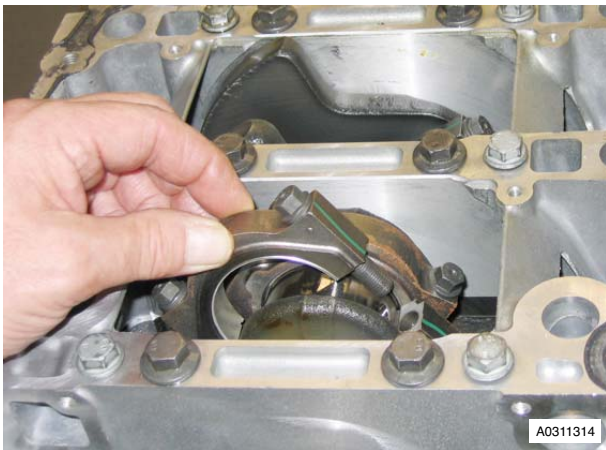

Figure 13
28. Remove bolts (x2) securing bearing cap to connecting rod, remove bearing cap (see Figure 13).